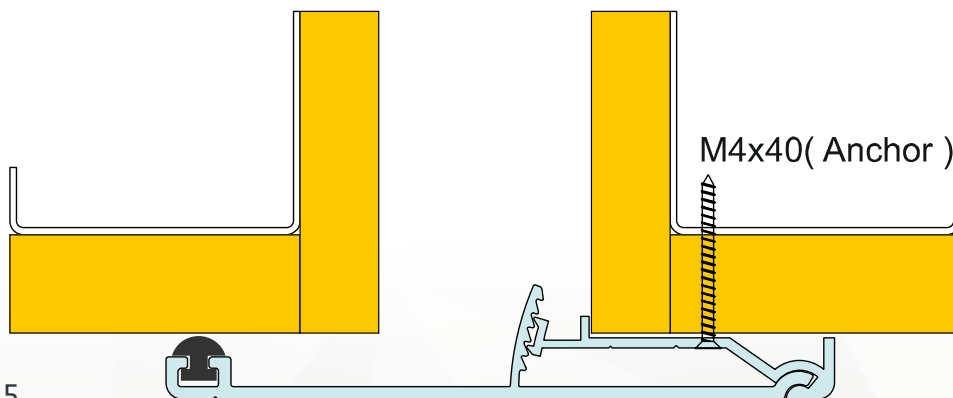

Figure 5.
STEP 6. Starting at one end of the assembly, tab the cover plate onto the base member clips tabs until the parts are fully engaged (see figure 5 above). The cover plate will snap on to the base member clips. Use a wooden block and mallet to avoid marring teh assembly.